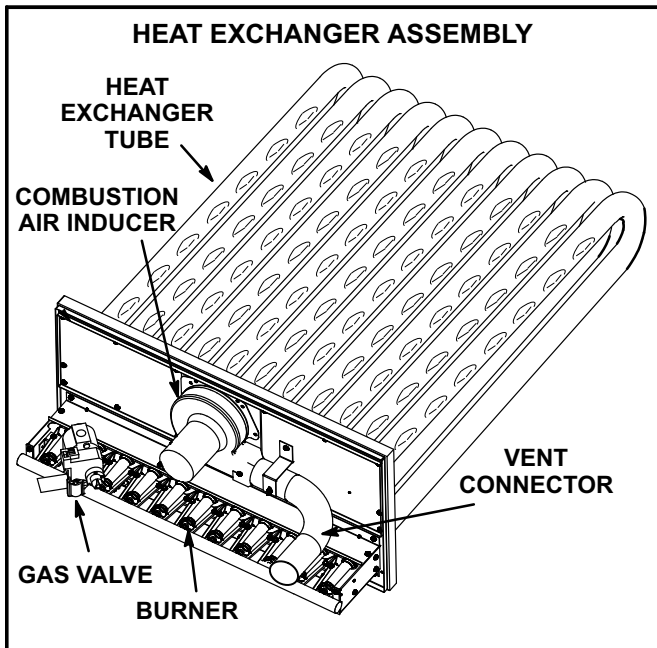

FIGURE 43
- 3- Remove and retain screws securing combustion air inducer to flue box. Remove and retain two screws from bracket supporting vent connector. See figure 43.